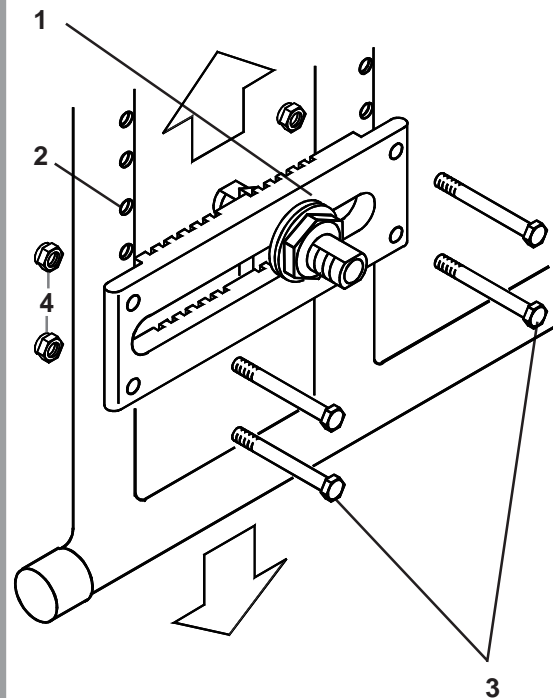

Fig. 21
Seat height (Fig. 21) can be adjusted by moving the axle plate (1) up or down the frame (2) within a range of 50mm (2") seat height adjustment. The four bolts (3) and nuts (4) per axle plate must be removed and positioned as required, then tightened to 8-10Nm torque, using two 10mm A/F spanners. Both axle plates must be positioned in the same hole setting on each side to ensure that the chair is level.
Operating position and adjustment instructions for the kneebrake wheel lock are shown in Fig. 21.